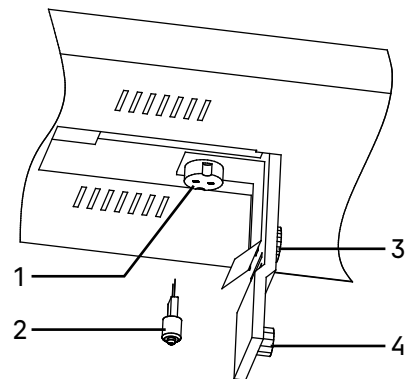

Fig. 18. Replacing the bulb
- loosen the attachment screw 1 and open the cover, as shown in Fig.18